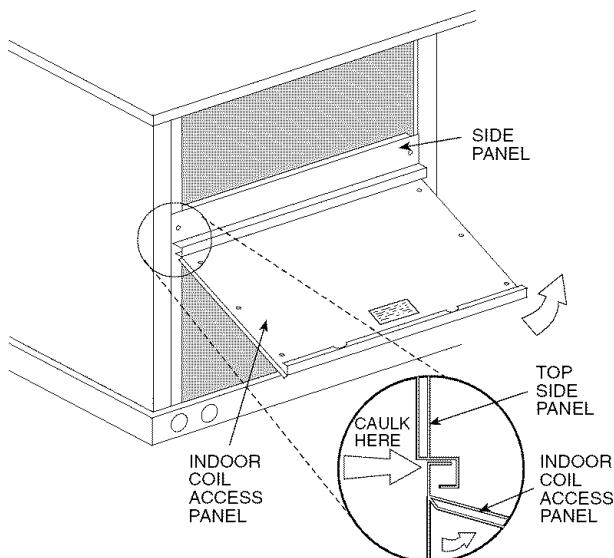

Fig. 24 — Indoor Coil Access Panel Relocation
3. The indoor coil access panel will be used as the top of the hood. Remove the screws along the sides and bottom of the indoor coil access panel. See Fig. 24.
8. Caulk the ends of the joint between the unit top panel and the hood top. See Fig. 24.